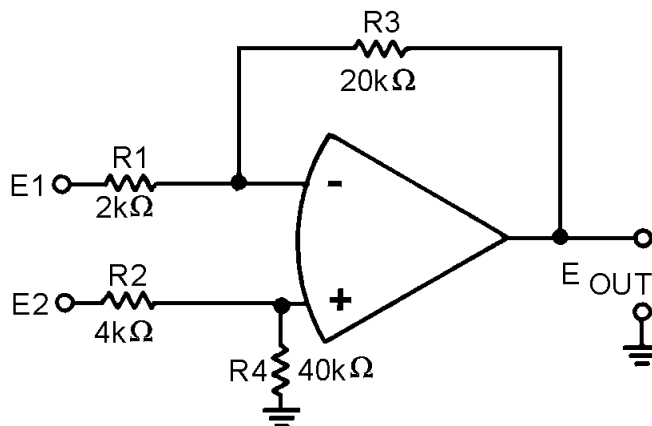

Figure 3-28.—Circuit for Q36 through Q38.
Refer to figure 3-28 in answering Q36 through Q38.
- Q-36. What type of circuit is figure 3-28?